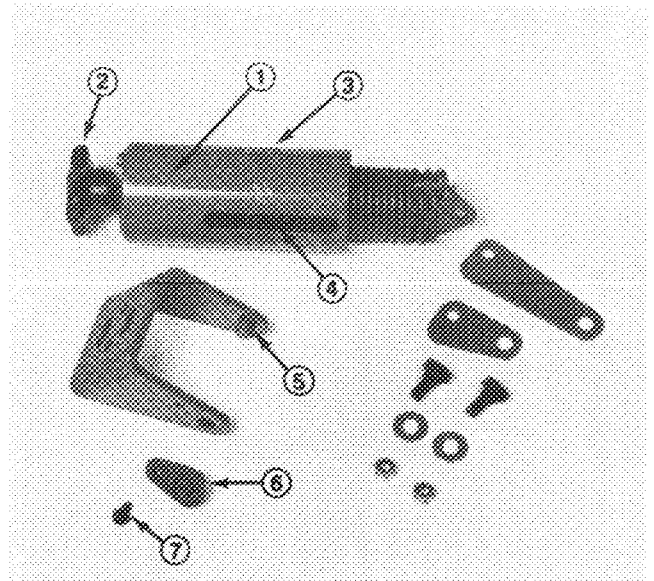

Figure 9
7. Set the adjustment for each weight transfer assembly to the middle setting by turning the adjusting knob. Start the traction units engine and raise the cutting deck about half way up. Stop the engine and remove the key. Position the assembly housing so that the bracket pin sticks into the slot in the housing (Fig. 9).